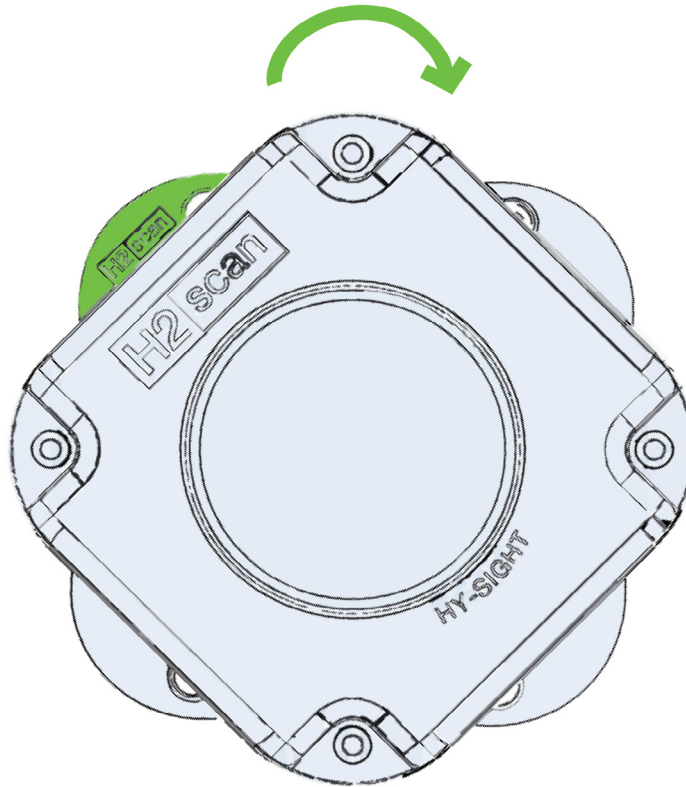

Figure 6: Secure HY-SIGHT Module to Wall Mount
2. Secure the HY-SIGHT module to the wall mount by aligning the H2scan logo on the HY-SIGHT to the logo on the wall mount and twist the HY-SIGHT 45 degrees clockwise (see Figure 6).